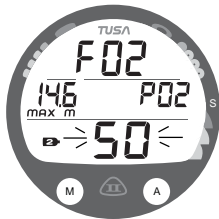

Fig. 16A - SET FO2 GAS 2
**Set FO2 Gas 2**, information includes (Fig. 16A/B):